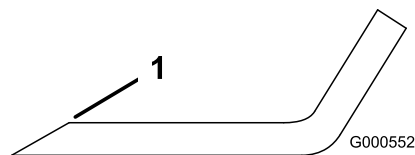

Figure 68
1. Use a file to sharpen the cutting edge at both ends of the blade (Figure 68).
Note: If the blade is not balanced, file some metal off the end of the sail area only (Figure 68).